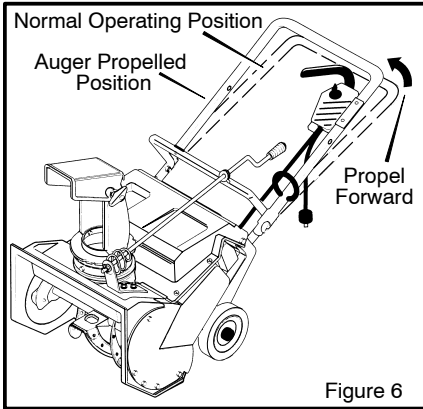

Figure 6
2. To propel forward, raise the handle to allow the auger blades to contact the ground (See Figure 6).